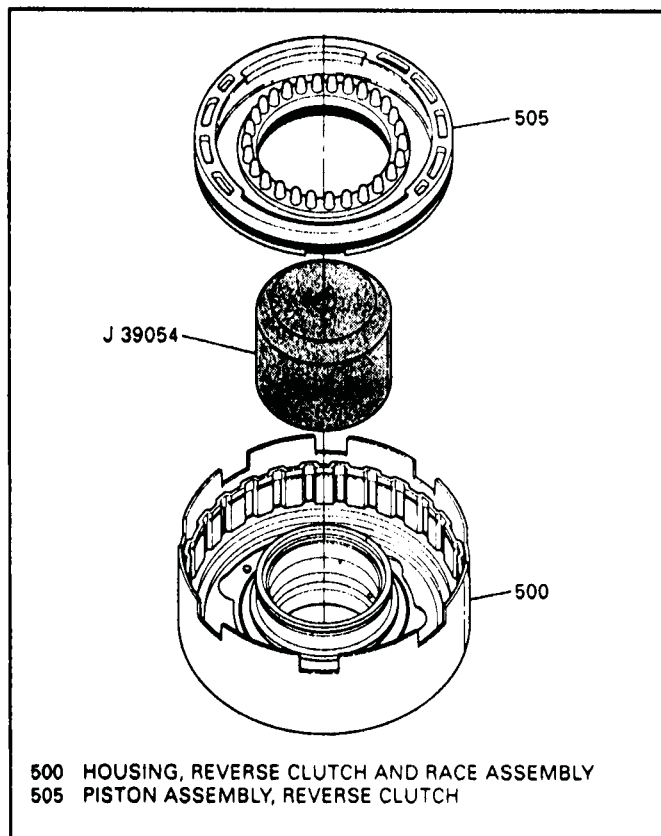

Figure 67
4. Lubricate lip seals with TransJel and install piston into reverse clutch housing (See Figure 67).
5. Use tool J-39054 to protect the inner lip seal as shown in Figure 67, and make sure the outer seal doesn't roll.